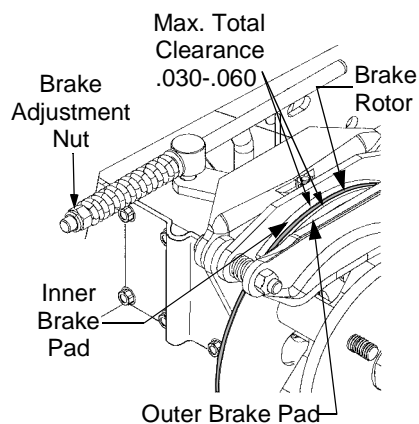

Figure 16
NOTE: Figure 16 is shown with the right rear wheel removed for clarity. Although not necessary for adjustment, removal of the wheels will ease the checking procedure.
- Accessing the brake adjustment nut from the rear of the tractor, beneath the fender, turn the nut clockwise to tighten and counterclockwise to loosen the brake assembly. See Figure 16.